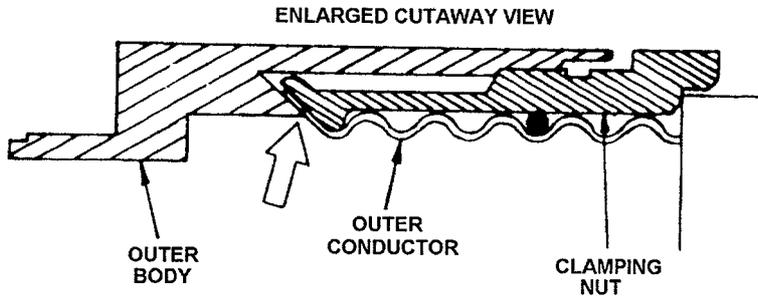

Figure 3.61. Enlarged Cutaway View
- g. Screw the outer body on to the clamping nut and tighten with the 1½in spanners. Hold the clamping nut and turn the connector outer body; do not turn the clamping nut. Unscrew and remove the outer connector body and inspect the end of the outer conductor for good metal-to-metal contact (see Figure 3.61).